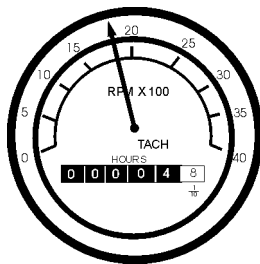

Figure 57. Engine Tachometer
15. The tachometer (Figure 57) will indicate the speed of the engine when the generator is operating. Under normal operating conditions this speed should be approximately 1800 RPM's.